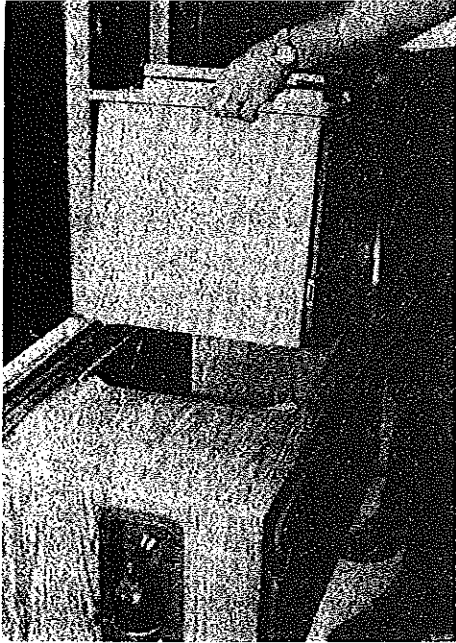

FIGURE 31
30. Move stove cabinet from floor storage location and position into cut out on hutch cabinet top. See Figure 31.